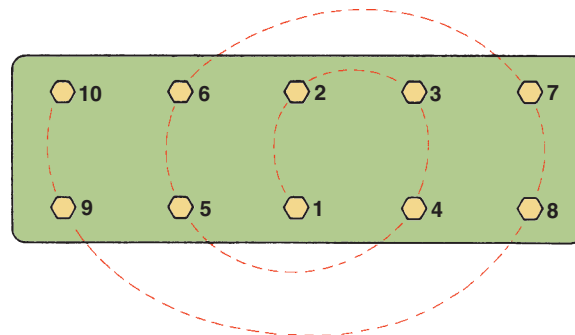

FIGURE 34-41 Typical cylinder head tightening sequence.
3. Follow the sequence with a final tightening to the specified torque. ● **SEE FIGURES 34-41 AND 34-42.**